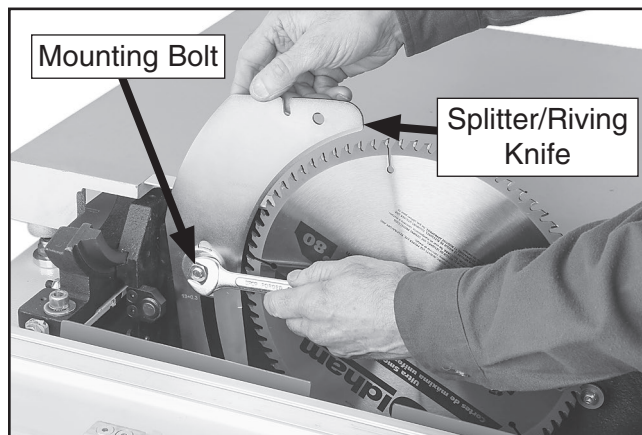

Figure 35. Installing splitter/riving knife.
28. Install riving knife or splitter/riving knife (see **Figure 35**). DO NOT tighten mounting bolt at this time (see **Riving Knife Alignment** on **Page 43** for detailed information).